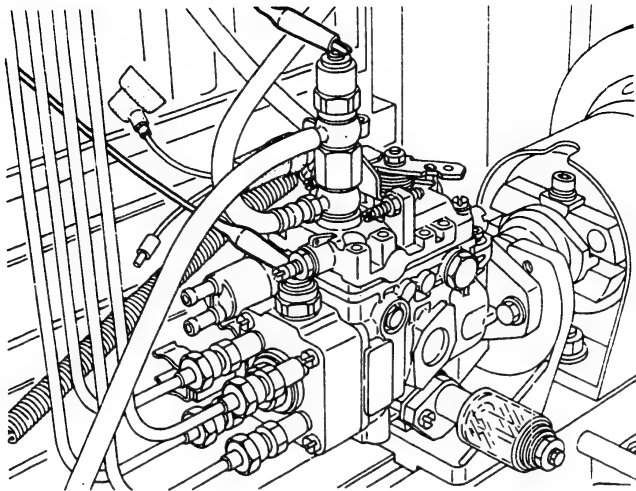

Fig. 195 Confirming the timer stroke
3. After the above, while supplying the specified voltage to the solenoid timer, confirm that the timer stroke is as specified. (Fig. 195) If not as specified, replace the solenoid timer or readjust the timer stroke.